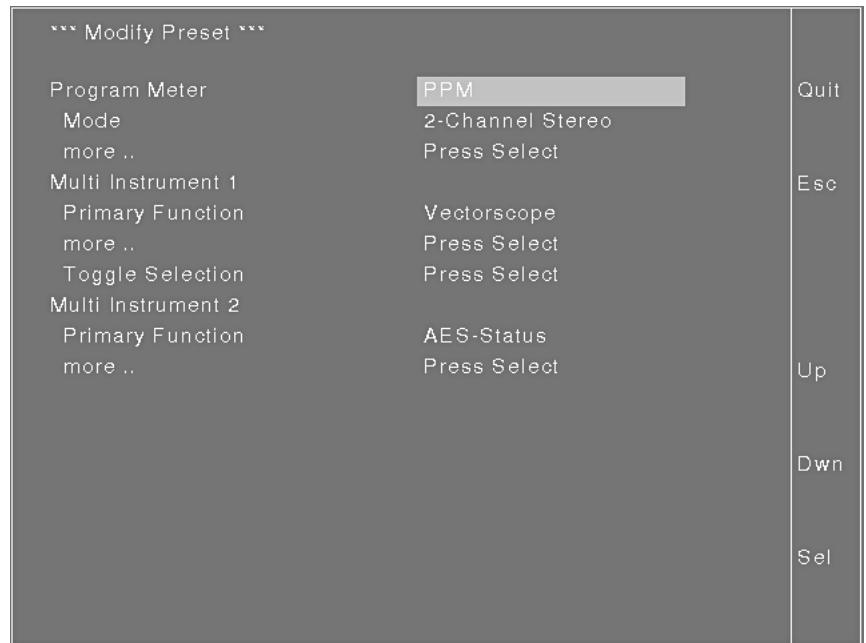

Fig. E 5-2: The Modify Preset menu of the DigitalMonitor 10500X-PLUS
- on **Modify Preset** menu (Fig. E 5.2):
on Modify Preset menu (Fig. E 5.2):